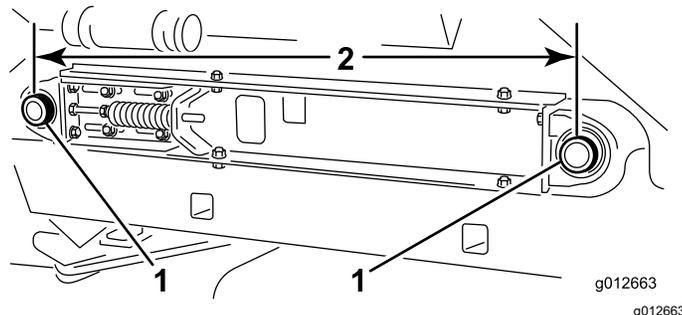

**Figure 25**
3. Loosen rear jam nut (Figure 25).